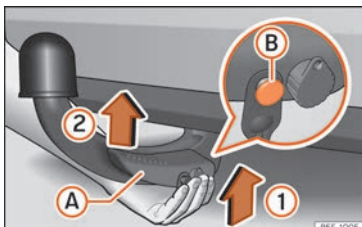

Fig. 179 Putting the tow hook in place. Step 1.
- Hold the tow hook **from below** and fit it into the hook housing in the direction of the arrow »» Fig. 179 ① until it is heard to fit into place »» ⚠.
Lever »» Fig. 179 ① **automatically** turns in the direction of arrow ② upwards, and the release bolt ② moves outwards (its red and green parts are visible) »» ⚠.
- **Keep your hands away from the lever when fitting the tow hook to avoid trapping your fingers »» Fig. 179 ①.**